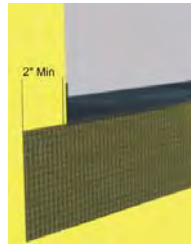

Figure 1
- 1) Cut AquaFlash Mesh to proper length [rough opening plus 102 mm (4 in)] extending 51 mm (2 in) past each jamb – Figure 1.